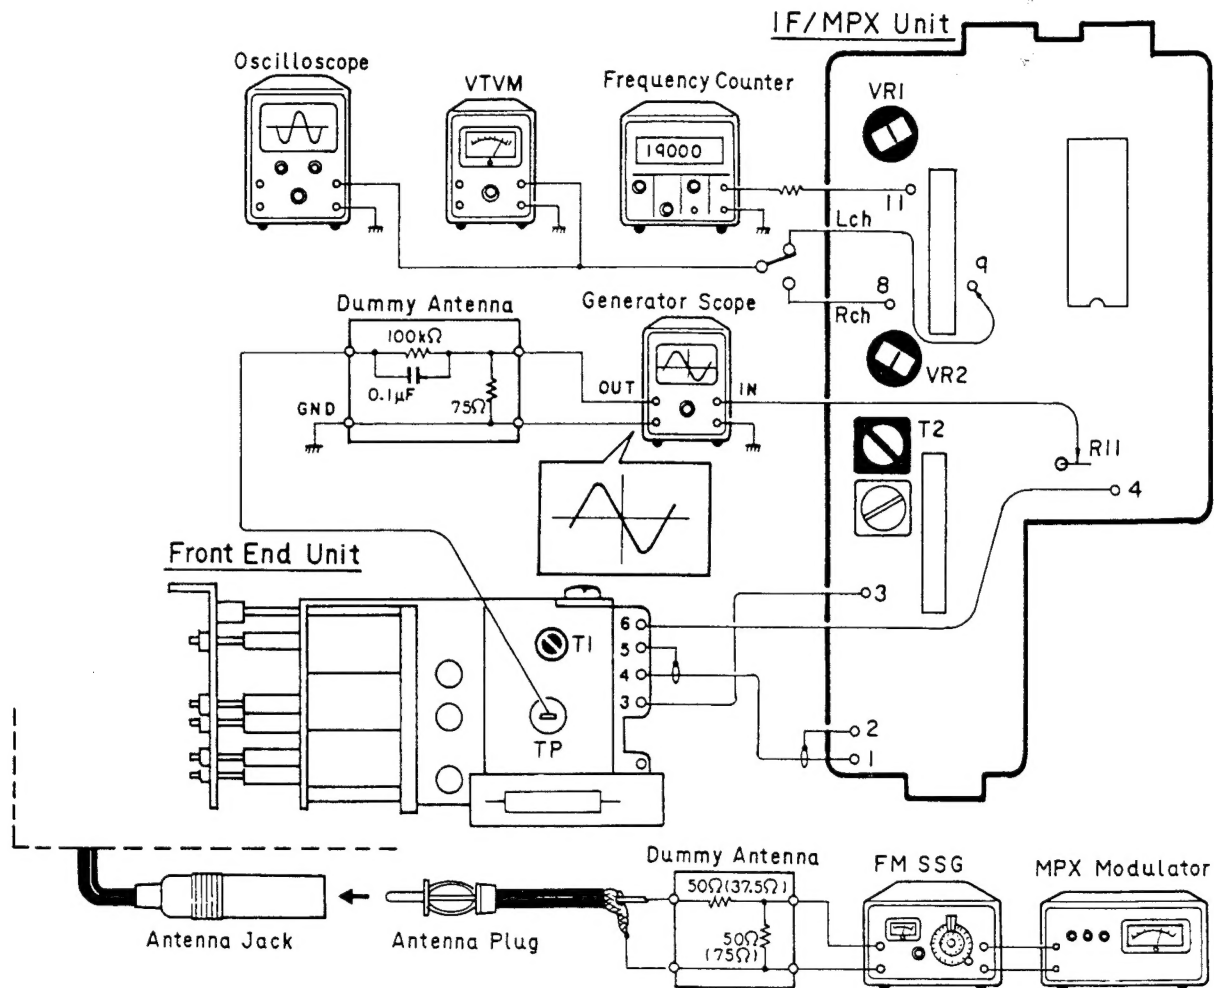

Fig. 8
2. A waveform shown in Fig. 8 is obtained on the generator scope when the hook-up is made as illustrated above and the power source is applied to.
#### • Connection Diagram (Shown in Fig. 8.)